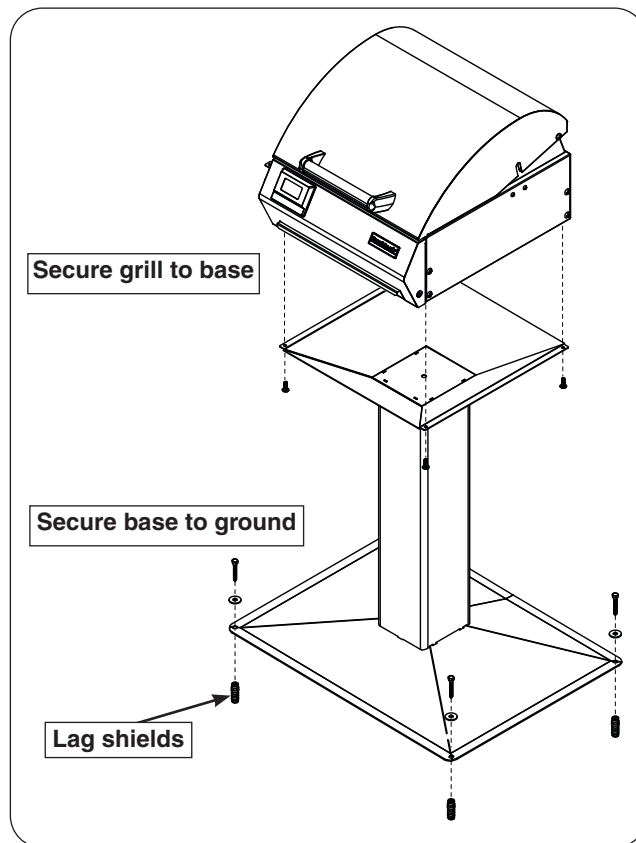

Fig. 12-3 Post model installation
3. Align the electric grill onto the top of the post assembly. Using the same four screws, fasten the electric grill to the post assembly. See Fig. 12-3.
1. Locate the patio mount base in the planned grill location and mark the 4 holes. Drill the marked holes to a $1/2$ " diameter x $1 1/2$ " depth. Insert the lag shields (see Fig. 12-3) into the holes, being sure that they are flush with the ground.
2. Align the holes on the patio mount base over the lag shields in the ground. Secure the base with the lag screws (see Fig. 12-3) using a $7/16$ " nut driver.